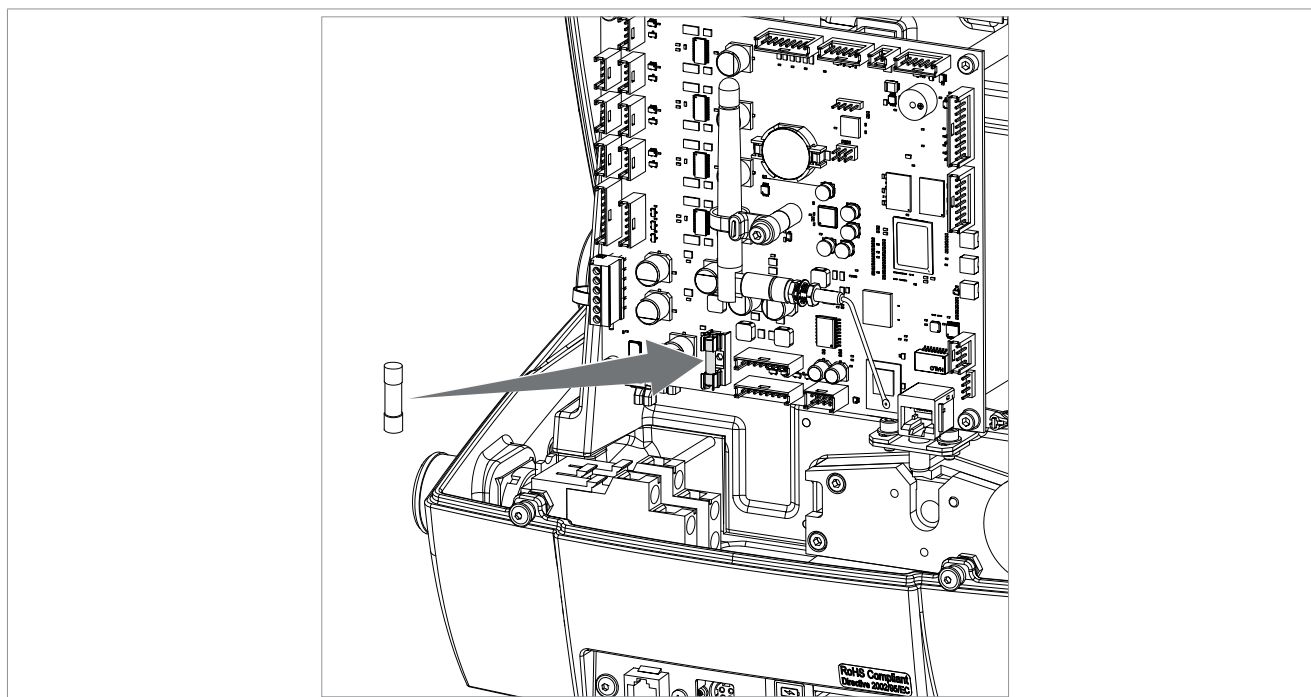

Fig. 59
- 2) Remove the fuse from its seat (Fig. 59) and replace if necessary.